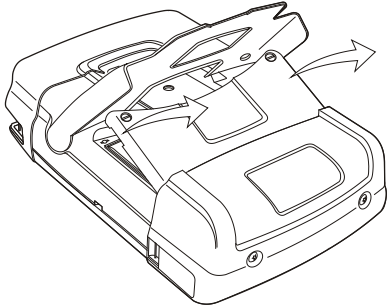

Figure 48. Removing the Battery Cover
4. Lift the battery cover and remove it, (Figure 48)